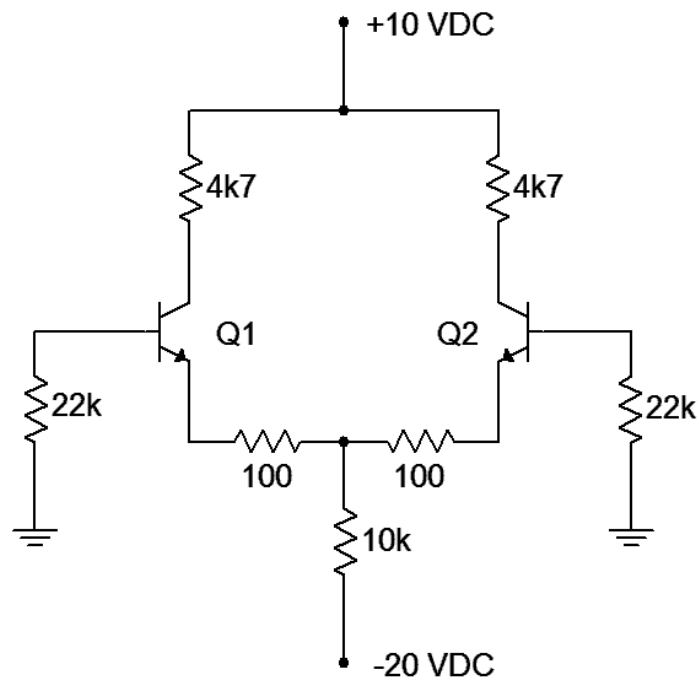

Figure 1
1. Assume that the transistors of Figure 1 have a current gain of 150. Calculate the base currents and collector voltages for the amplifier of Figure 1 and record them in Table 1. Also, compute and record the theoretical (ideal) input offset current and output offset voltage.
2. Assemble the circuit of Figure 1.